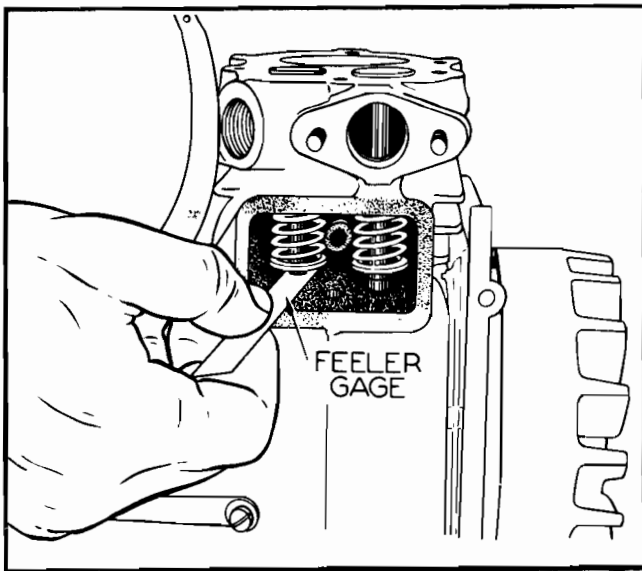

Figure No. 33—Checking Valve Tappet Clearance
1. To check tappet clearance, remove the tappet case and breather cover and measure the tappet clearance with a feeler gauge. (See Figure No. 33.) When taking this measurement, make certain the tappet is at its widest position by rotating the engine until the tappet rests on the heel of the cam.